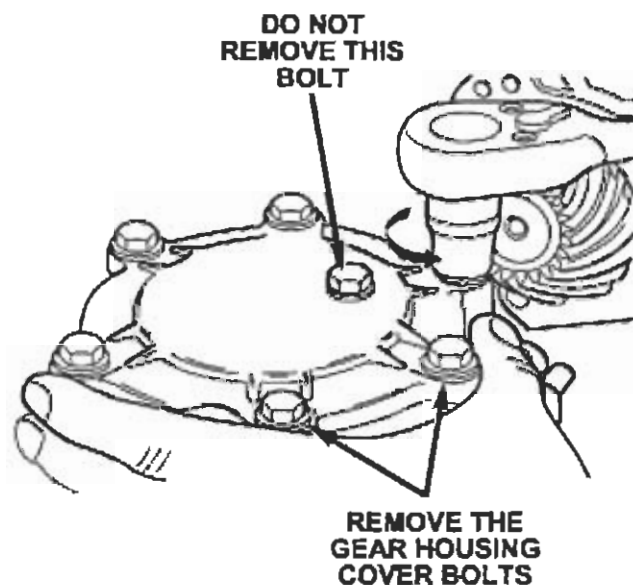

Figure 11 – 5-Speed Vehicle Shown
23. Remove the six bolts that secure the gear housing cover to the gear housing (Figure 11).
IMPORTANT: On 5-speed vehicles, do NOT remove the bolt in the center of the cover (Figure 11).